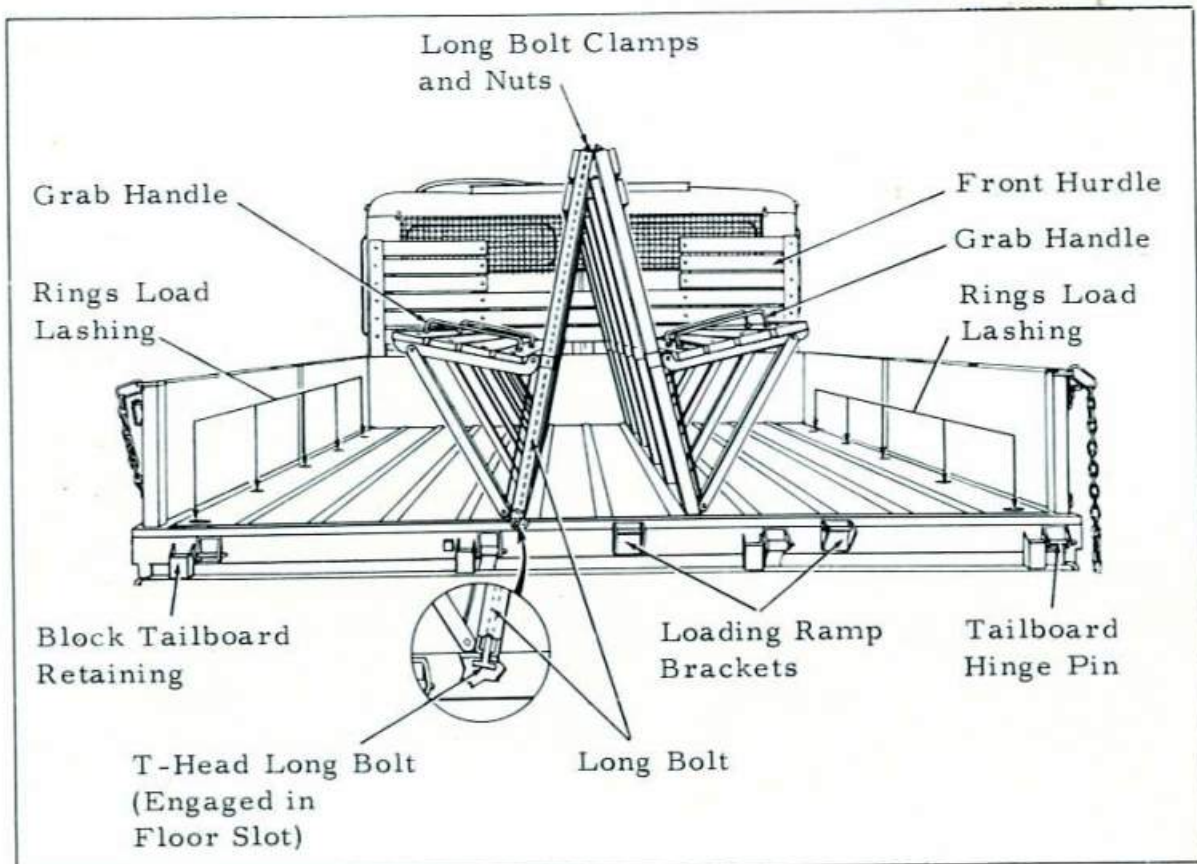

FIG 13
79. The loading brackets (Refer Fig 13) are provided on the rear member of the floor assembly to support the end of a standard ramp used for the direct transfer of cargo to or from aircraft, railway trucks or other elevated platforms.
(Refer to Fig 13 and 14)
- a. Twelve swivelling rings located inside the body in circular recesses in the floor. (Fig 13)